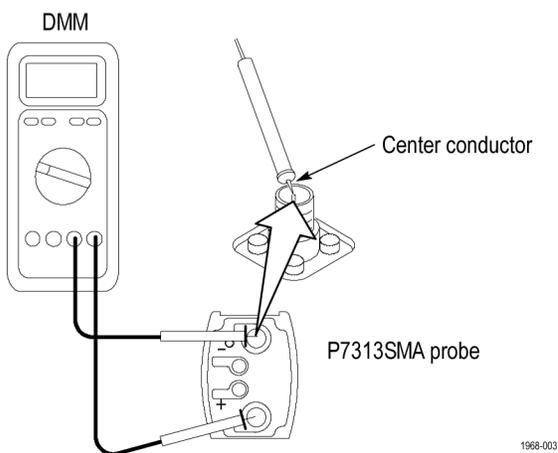

Figure 23: Checking differential mode input resistance
3. Remove the SMA terminations from the two probe inputs and gently probe the center contacts of the input connectors. Be careful not to touch the outer edge (ground) of the connector. (See Figure 23.)